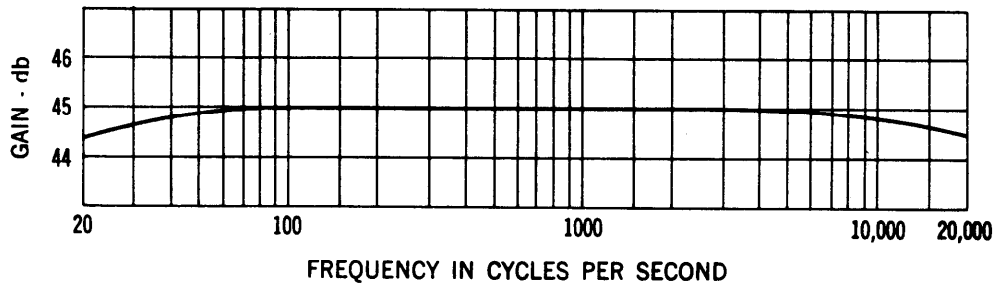

Fig. 8 - Gain-Frequency Characteristics
5.04 Fig. 8 shows the typical gain characteristics of the amplifier with frequency.